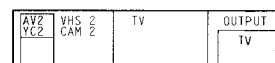

Fig. 44.
- 3 Select the desired source with  $\Delta$ + or  $\nabla$ -. (See Fig. 44)